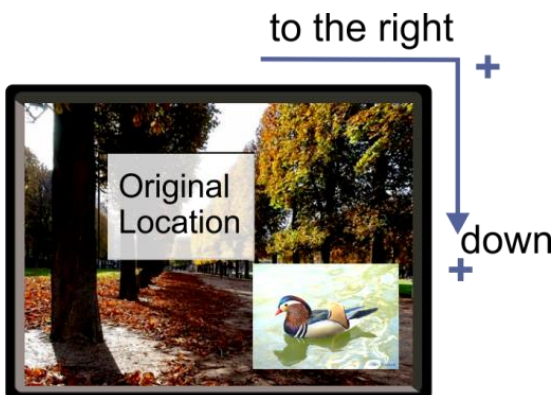

Figure 16: Moving the PiP Window
4. Press the +/- buttons to move the PiP window horizontally. Use the V Position menu item in the same way to move the PiP vertically, see Figure 16.